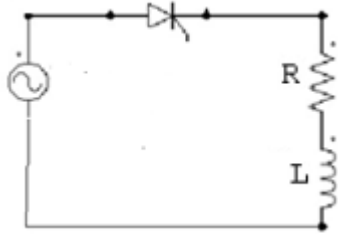

Figure 3.8
1. A Single phase controlled rectifier half waven shown in Figure 3.8 with  $R = 10 \Omega$ ,  $L = 20 \text{ mH}$ , and  $V_s = 220 \sin 314t$  and the firing angle  $\alpha$  is  $30^\circ$  and  $\beta = 220^\circ$ . Determine the current through the load